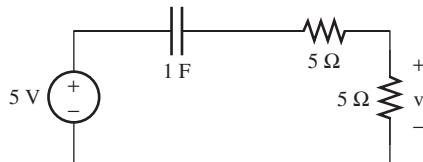

FIGURE P4.10 Circuit for Problem 4.10.
- 4.10** (B) Find the voltage, v , in Figure P4.10.